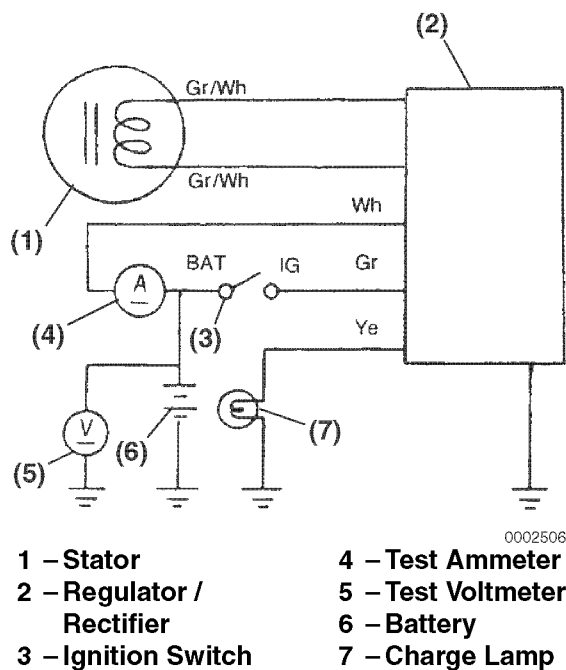

Figure 9-6
1. Use a test voltmeter (**Figure 9-6, (5)**) to test and record the battery (**Figure 9-6, (6)**) voltage with the engine not running.
2. Connect a test ammeter (**Figure 9-6, (4)**) between the regulator white output wire and the battery positive (+) terminal.
3. Start the engine and operate it at normal operating rpm. The charge lamp (if equipped) (**Figure 9-6, (7)**) should glow.
- If results are not correct, test the stator (**Figure 9-6, (1)**) for continuity and shorts to the ground. See *Testing Stator Coil Continuity and Testing Stator Coil Short-to-Ground* on page 9-13.
- Test the ignition switch (**Figure 9-6, (3)**) for continuity between the BAT and IG terminals.
- If no problems are found in the previous checks, replace the regulator / rectifier (**Figure 9-6, (2)**).